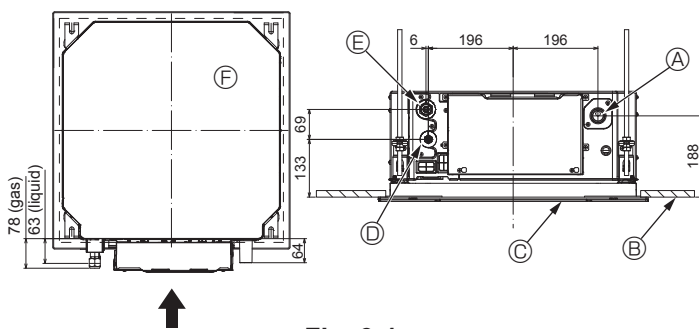

Fig. 3-1
3.1. Refrigerant and drainage piping locations of indoor unit (Fig. 3-1)